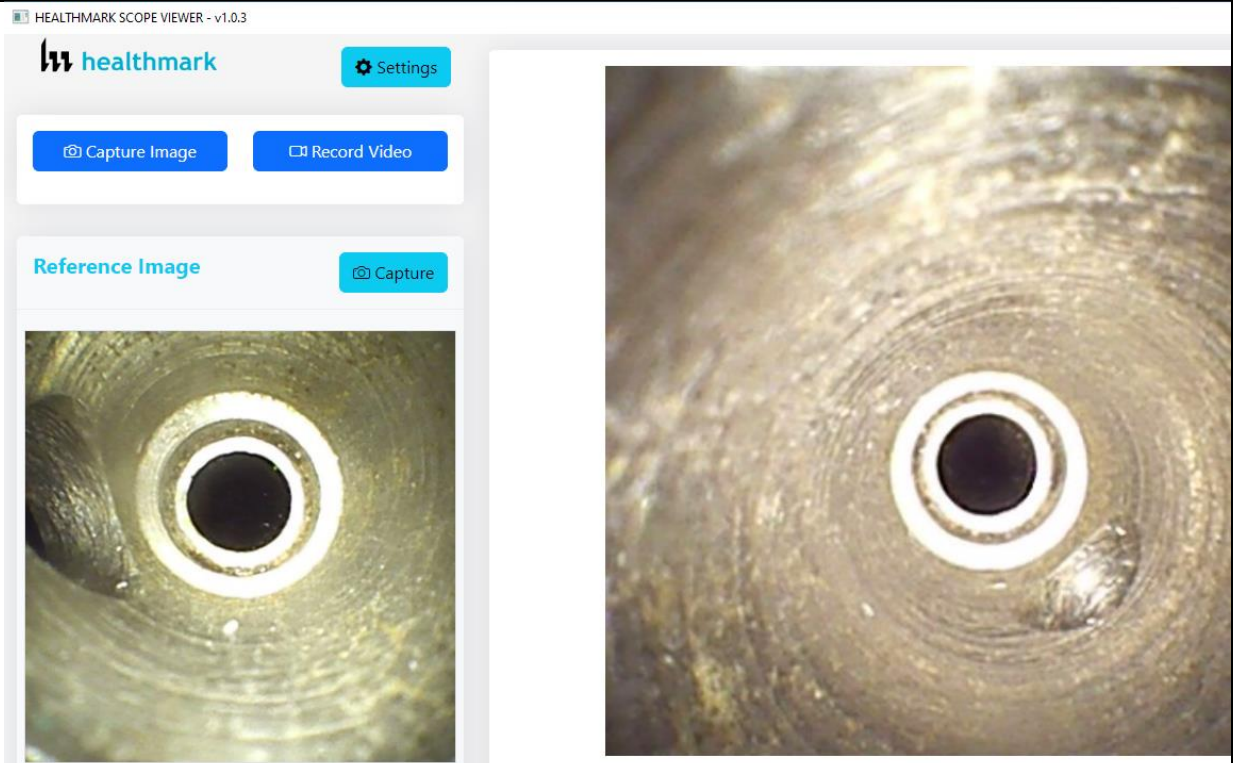

Figure 2
5. *Capture Button*: Captures a reference image and saves it to the *Reference Image Folder*. **(Fig. 2)**.